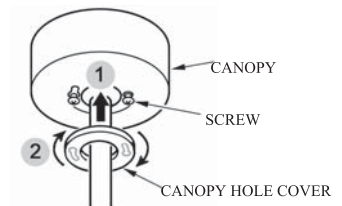

FIG.14
5. Place the canopy hole cover over the screws and twist the cover to tighten. ( See Fig.14 )